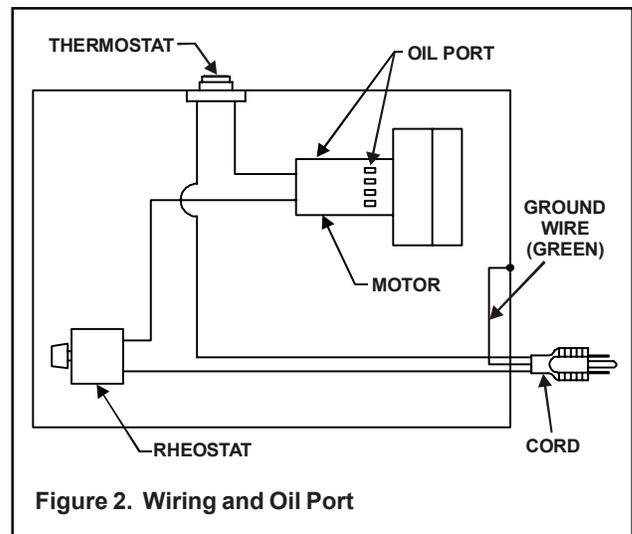

Figure 2. Wiring and Oil Port
3. This unit is equipped with a three (3) wire ground cord for protection. **Never** remove the ground lead. Be sure the electrical plug provided is plugged into a proper three (3) prong outlet. If an extension cord is used, be sure it has the proper ground and is of the same or greater value than the cord provided on the Grate Heater. If the extension cord is too light the fan may fluctuate its speed and operate improperly.
5. Under normal use the blower on the Grate Heater should be oiled every 4,000 hours of operation. There is an opening on the top of the motor where 2 drops of a "3 in One" type of general purpose lubrication oil can be applied (see Figure 2).